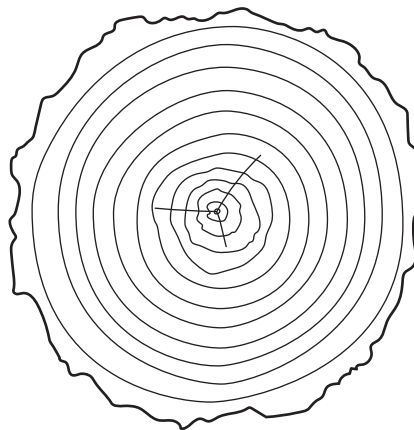

Fig. 5
- (d) Fig. 5 shows the cross-section of a tree once it has been cut down.